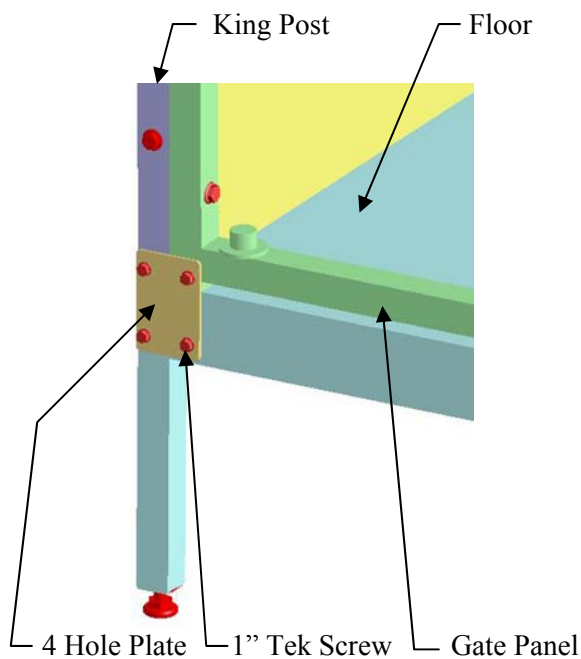
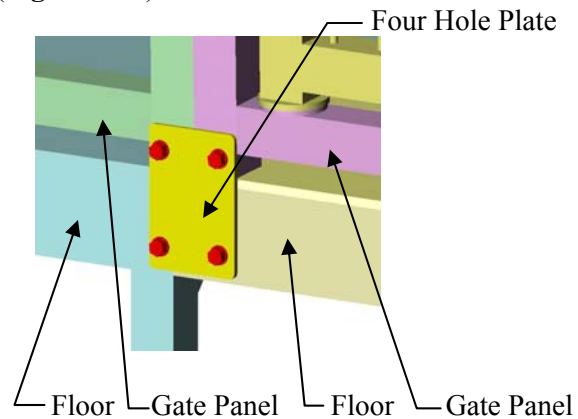

Figure 22
Figure 22A
1. After all the Gate Panels are installed, locate the 4 Hole Plate. Attach the first 4 Hole Plate over the King Post and the first Gate Panel frame tube with (4) 1" Tek Screws as shown in **(Figure 22)**. The rest of the Plates will mount where each Gate Panel meets with another Gate Panel **(Figure 22A)**.